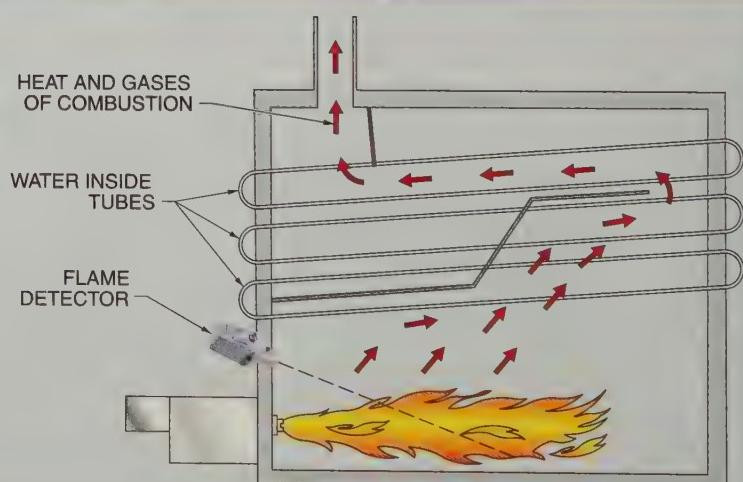

Figure 43-14. A UV flame detector is a safety device that allows a combustion operation to continue only when a flame is detected.
The most common industrial flame detectors are those based on the emission of ultraviolet (UV) radiation from flames. See **Figure 43-14**. The combustion of carbon-based fuels emits enough UV radiation to be detected. It is necessary for the detector to actually “see” the flame, so the unit needs to be mounted close to and in direct line of sight of the flame. Sometimes the unit needs extra cooling, such as a water jacket, to protect the device from the heat.